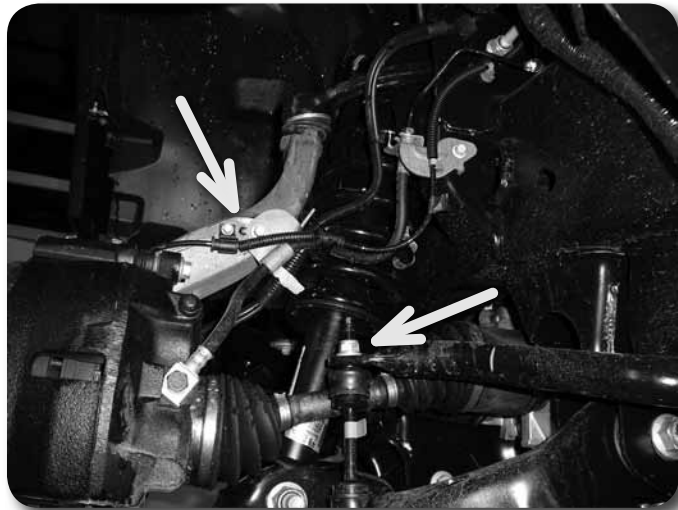

Figure 1
5. Disconnect the driver's and passenger's side front sway bar links from the sway bar. Save sway bar link nuts. **Figure 1**
6. Disconnect the front brake line and ABS line from the steering knuckle. Save bolts. **Figure 1**